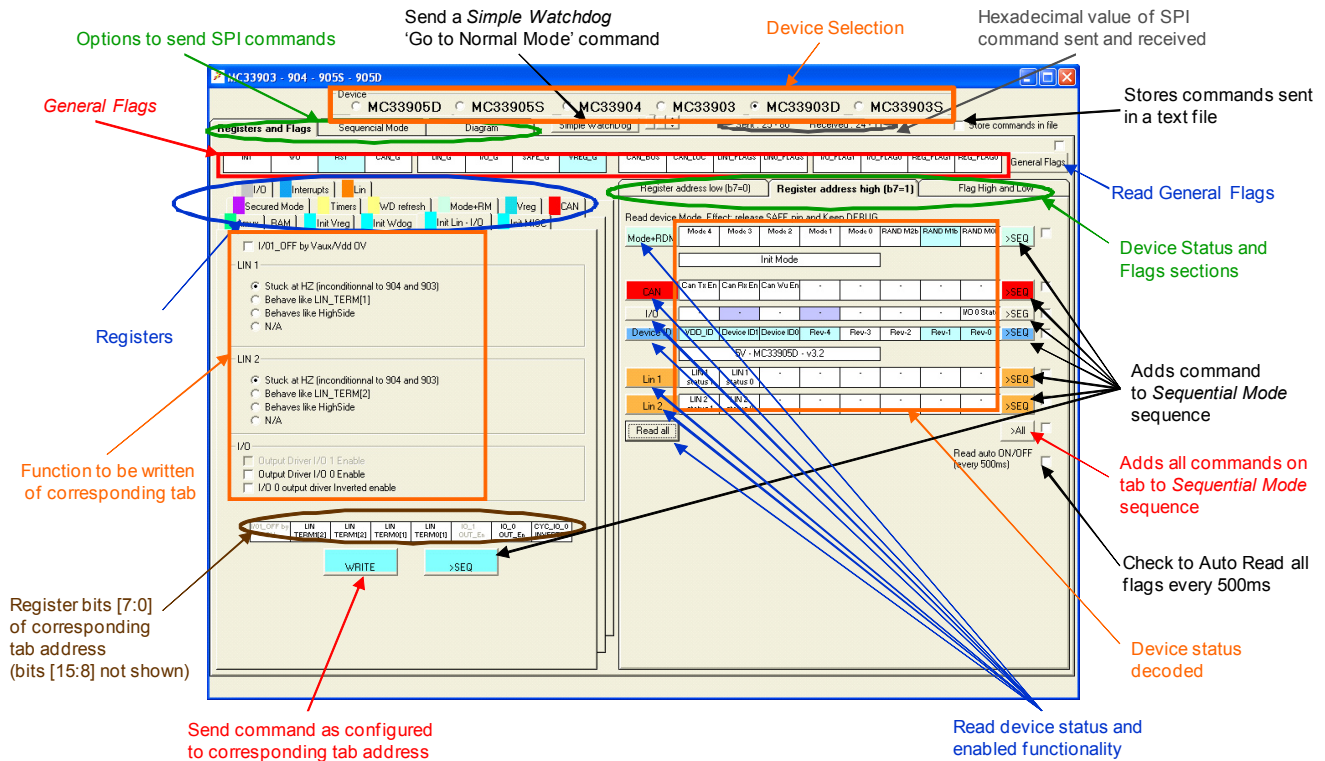

Figure 6. SPIGen Graphical User Interface (Commands and Device Status)
1. In the **Registers and Flags** tab, click **Register address high (b7=1)** sub tab to read device status and enabled functionality as shown in Figure 6.